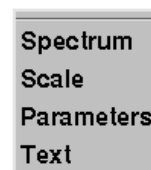

Figure 81. Plot Menu Window
2. Press the right mouse button anywhere in the workspace to open the plot menu window shown in Figure 81.